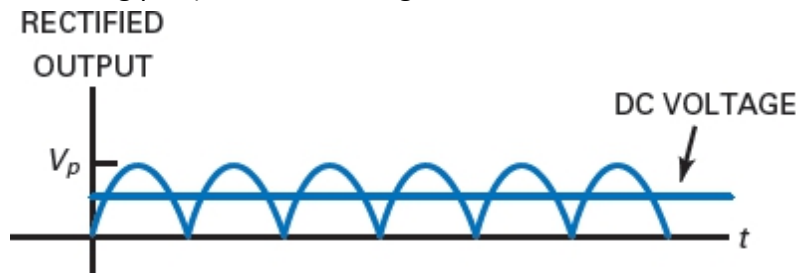

Figure-53 Rectifier output has dc and ac components
- The rectifier output has two different components: a dc voltage (the average value) and an ac voltage (the fluctuating part), as shown in Figure-53.